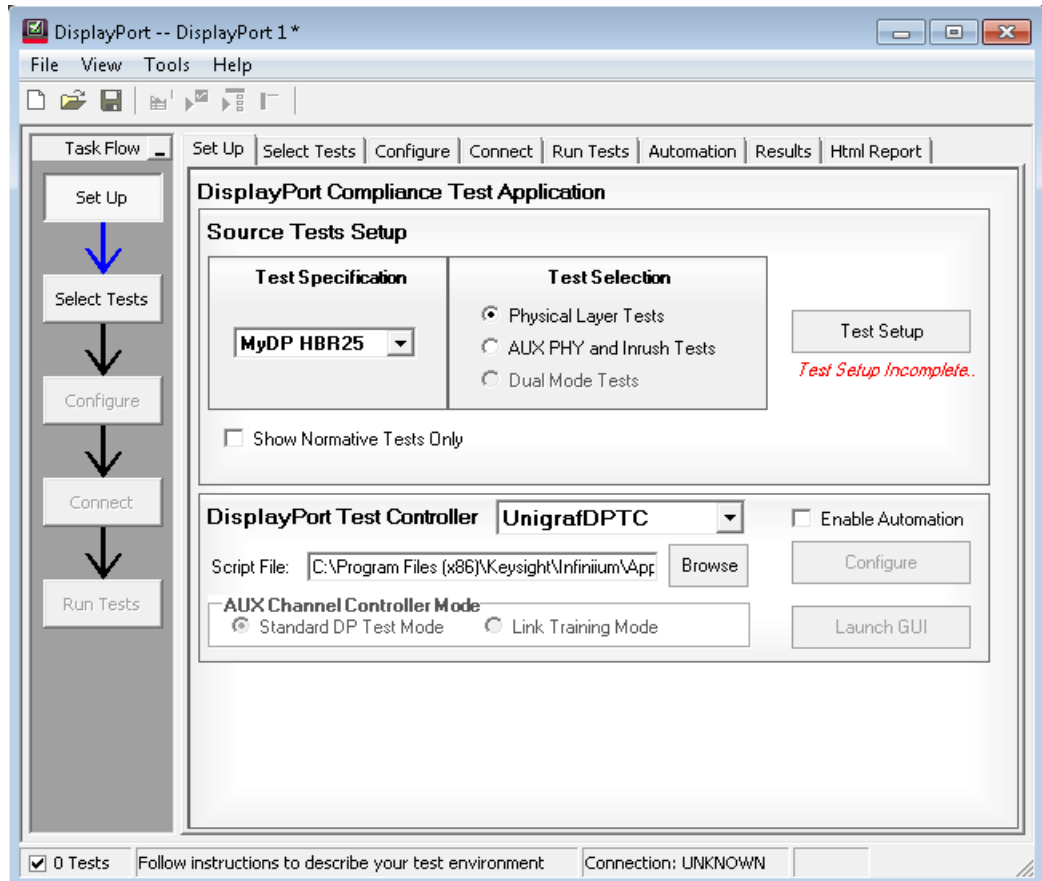

Figure 168 Set Up tab on the DisplayPort Compliance Test App
- 3 On the DisplayPort Compliance Test Application, click the **Set Up** tab (see Figure 168).